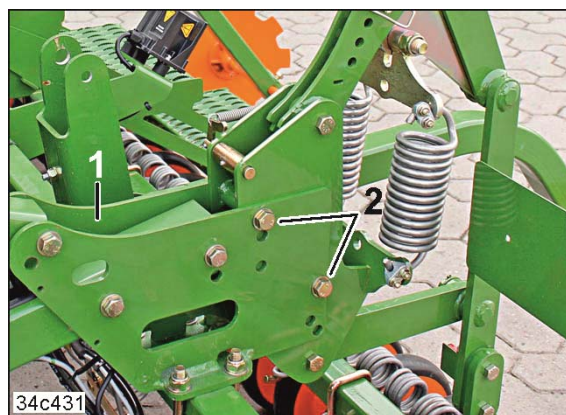

Fig. 236
The bracket (Fig. 236/1) serves for bolting on the exact following harrow and the roller harrow. For replacement, hook the harrow to a crane. The crane requires a minimum lifting capacity of 300°kg. Fasten the harrow in the bracket, more specifically,
- the roller harrow with two bolts (Fig. 236/2).